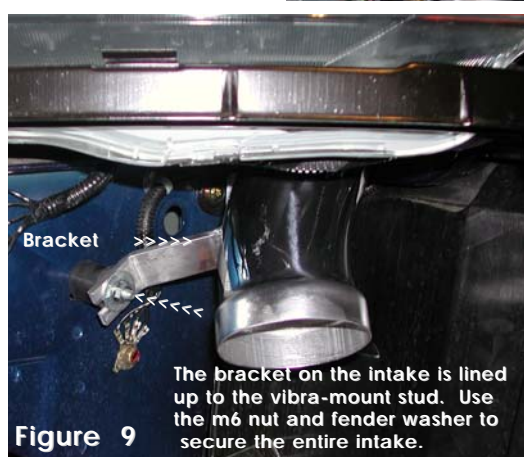

Figure 9
7. Press the 3 1/2" Injen filter over the swaged end of the lower half of the intake, fasten the clamp on the filter tight. (See figs. 9 and 10)